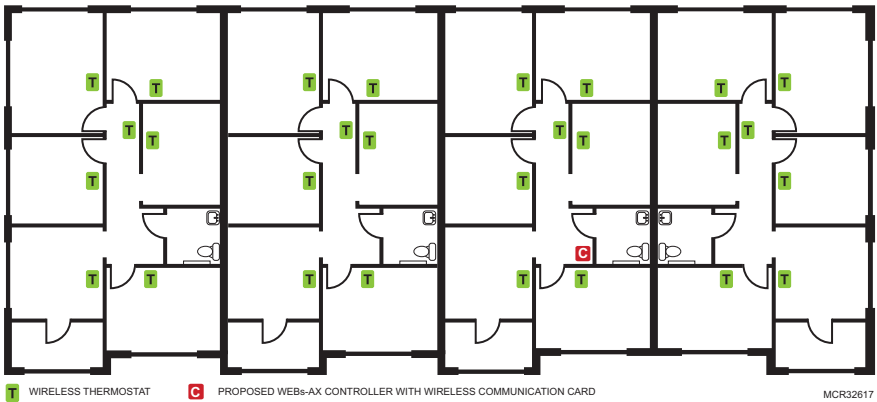

Fig. 7. Floor plan with proposed thermostats to be installed.
If available, it is best to have a floor plan layout showing the location of all the proposed thermostats to be installed (Fig. 7).
1. Create a site drawing of proposed locations for all wireless devices like the floor plan shown in Fig. 7.